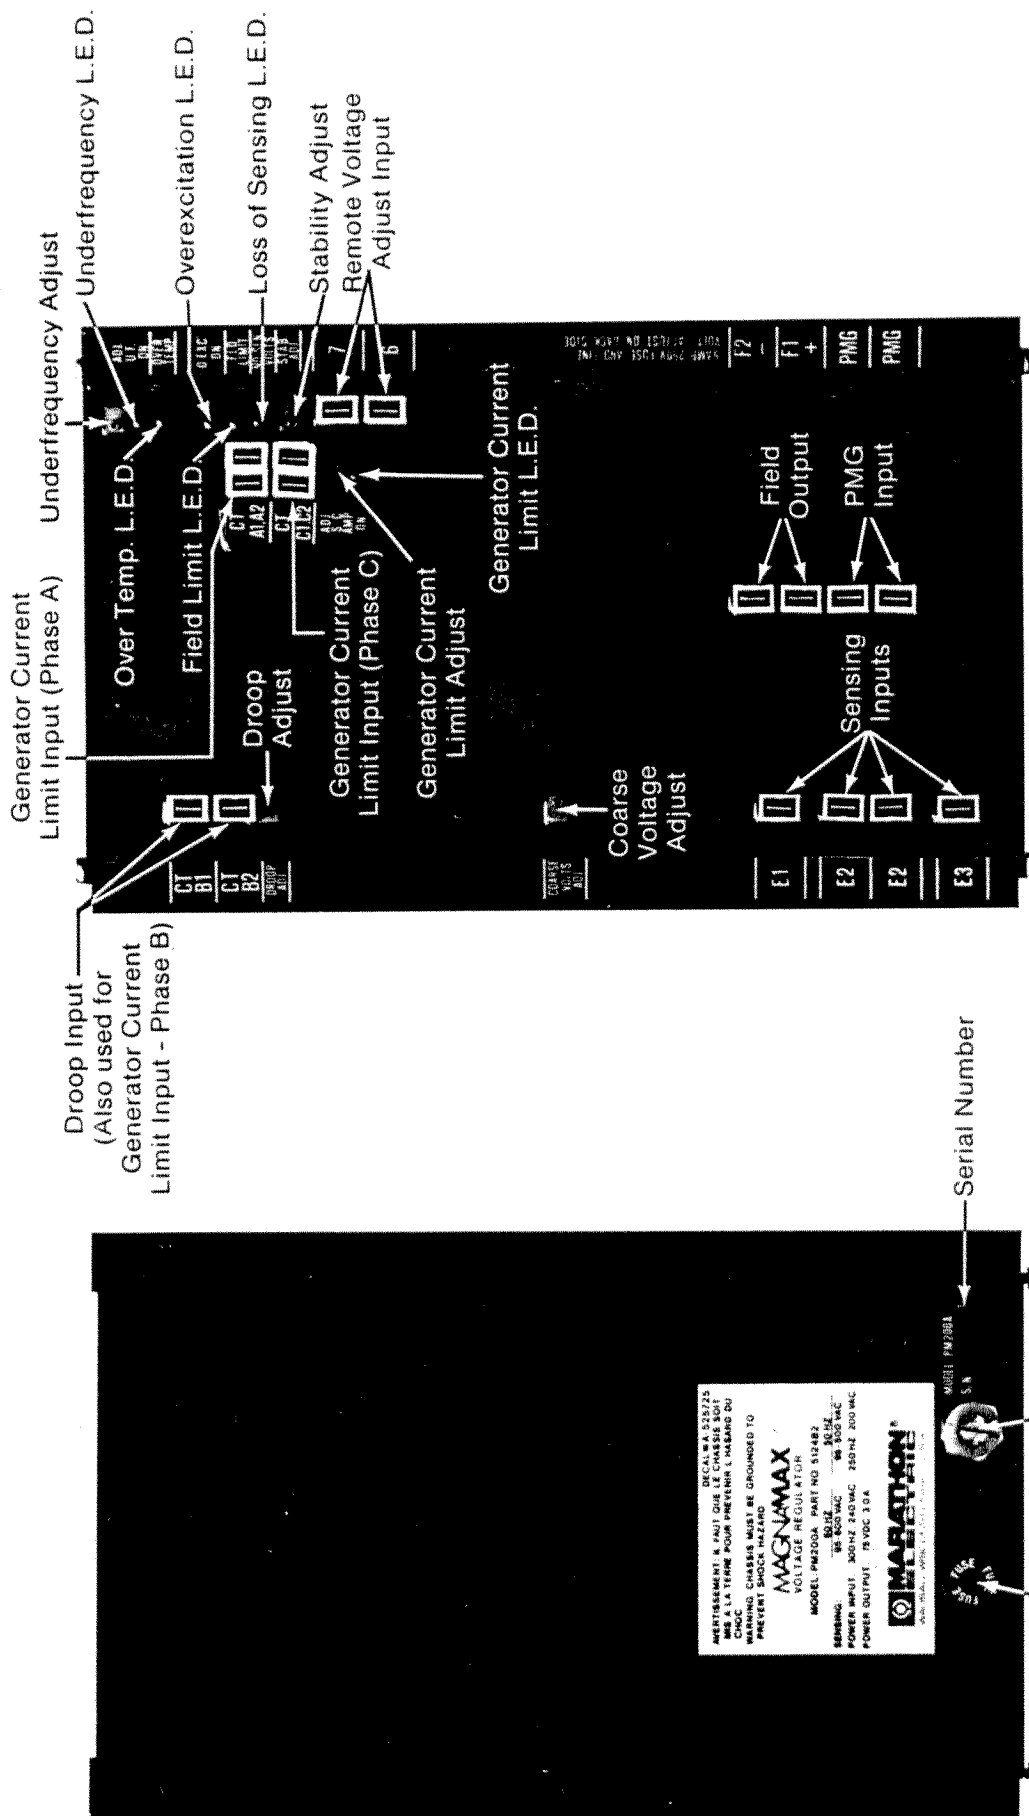
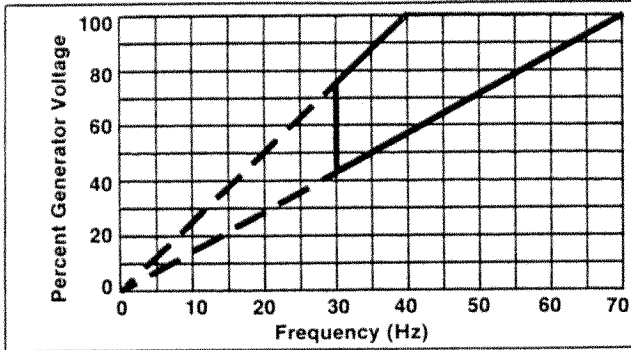

Fig. 1
Fig. 2A
The voltage regulator is equipped for either 3-phase or 1-phase sensing. The sensing voltage is continuously adjustable over the entire voltage range with the 15 turn coarse voltage adjust control (Figure 1). The single turn fine voltage adjust control gives a minimum of  $\pm 10\%$  voltage variation at any setting of the coarse adjust. A 10,000 ohm optional remote rheostat can be added. This remote rheostat can also give a  $\pm 10\%$  variation independent of the coarse adjust setting.
If an open circuit occurs in one of the sensing leads (or if the E2-E3 Jumper is not properly connected when using single phase sensing), the regulator will turn off and the loss of sensing LED will turn on (Figure 1). At this time, the generator output voltage will go to residual. The regulator will automatically reset when proper sensing is restored. This loss of sensing circuit will **not** activate under a generator short circuit condition but rather the regulator will turn to its full forcing capabilities for a minimum of 10 seconds for fault clearing.
The underfrequency control (Figure 1) changes the regulator's mode of operation. When not operating in the underfrequency mode, the regulator has a flat regulation, constant voltage over a frequency range. When operating in the underfrequency mode, the regulator has a constant volts per hertz characteristic (a linear relationship of voltage with respect to frequency). The transition frequency is adjustable from 40 Hz to 70 Hz (Figure 2A, 2B, and 2C for typical volts/hertz characteristics).
The overexcitation circuit senses when the regulator output voltage is above a set level. If this voltage remains above that level, the overexcitation LED (Figure 1) will turn on and a protective function with an inverse time characteristic turns the regulator off. The generator voltage will go to a residual level and the overexcitation LED (Figure 1) will remain lit. The generator must be stopped or input power must be removed for a minimum of 10 seconds to reset the circuit and restore normal operation.
The regulator will turn itself off before it is damaged by overheating. This will occur at an ambient temperature in excess of 70°C. The generator voltage will go to a residual level and both the overtemperature LED and the field current limit LED (Figure 1) will turn on and remain lit. When the regulator cools it will automatically return to normal operation.
The regulator output is current limited. Should a heavy current load or short circuit occur across the field output terminals (Figure 1) the regulator switches to a current limit condition and the field limit LED (Figure 1) will turn on. The limiting circuit automatically resets itself when the output current drops below the current limit set point. This current limit set point is **not** adjustable.
The generator current limit is designed to control the maximum short circuit current that will be sustained by the generator (Figure 1). Current sensing is through external 5 amp, 5 VA current transformers. Depending upon the current transformer ratio, the regulator will limit the generator current from about 150% to about 400%.
6. The generator current limit circuit (available on PM200 models only) receives a signal from three generator current transformers (See Figure 1 for location of input terminals and adjustment control). (The paralleling terminals are the inputs for one of the current transformers.) Each current signal is converted to a voltage signal and combined. Its composite is then sent to the main summing amplifier. The amount of control signal is determined by the setting of the current limit adjustment (See Section 4 for proper adjustment).